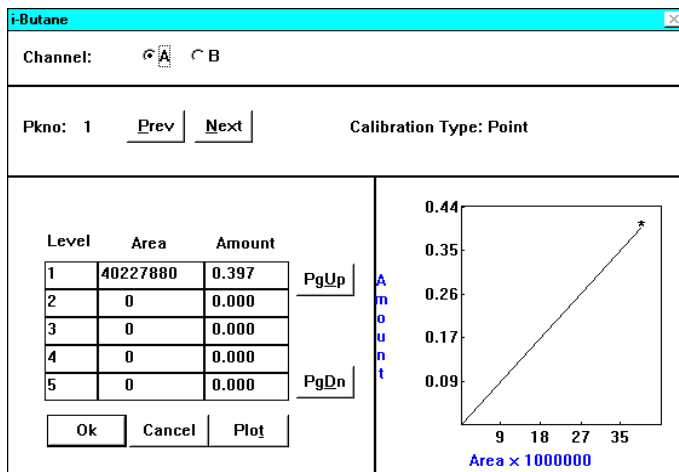

Figure 51 Peak calibration table
1. To enter the concentrations from your calibration standard gases into your Peak Calibration Table (See Figure 51):